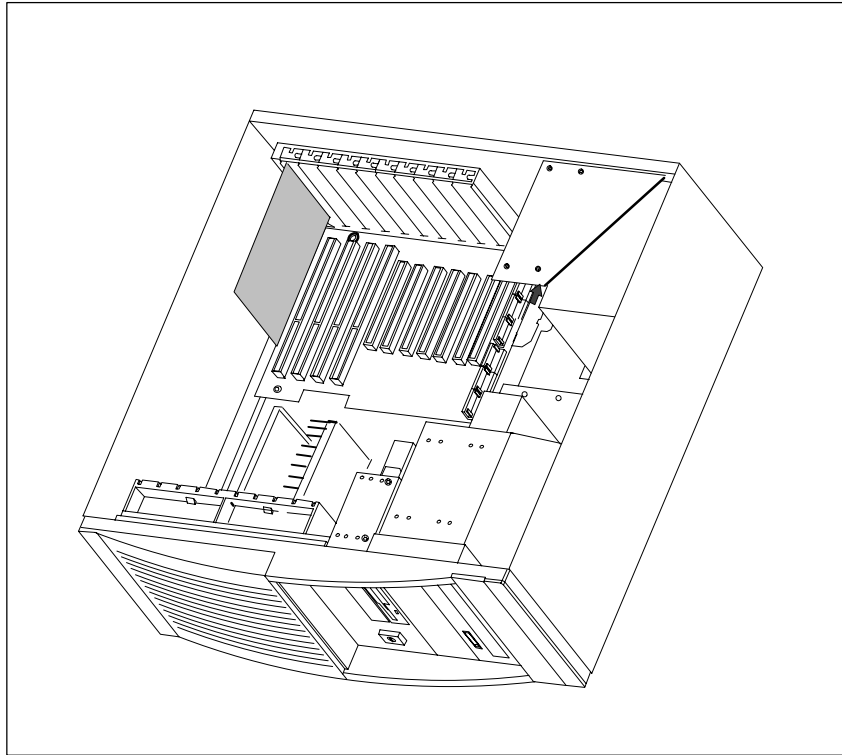

Figure 1-9 Mounting the Front Drive Block
- First pull the drive block two centimeters (0.8 inches) to the rear (see direction of arrow in Figure 1-9) then pull the front block out of the housing.